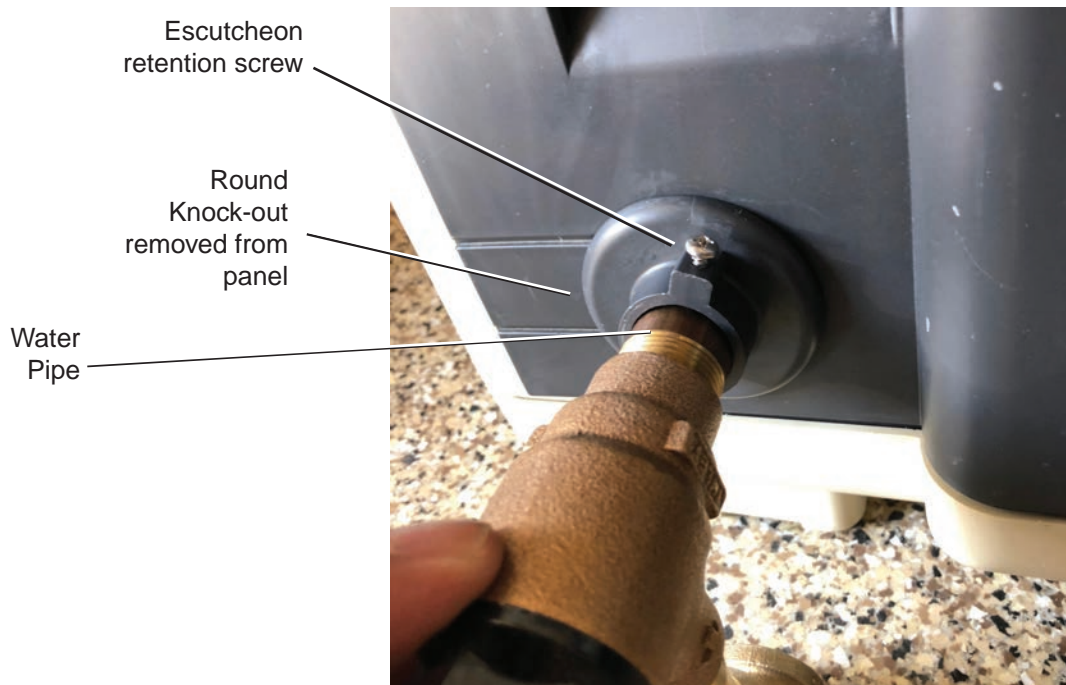

Figure 3. Escutcheon installed on **Pressure Relief Valve** water pipe. Be sure the escutcheon covers the circular opening in heater panel.
10. Place the water escutcheon over the exit water pipe, see Figure 3.
11. Install the exit pipe, see Figure 3.